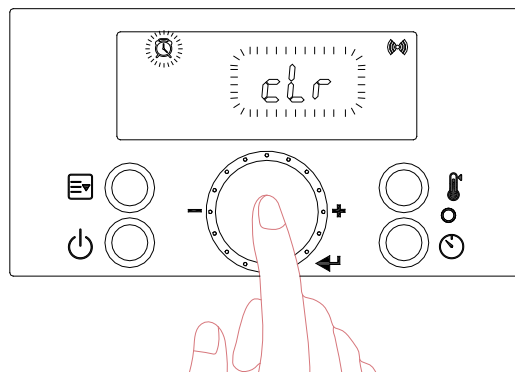

Figure 47 – Resetting the Recirculation Run Time
- Turn the dial  until “cLr” flashes on the screen. Press the  button at the “cLr” screen to reset the Recirculation Run Time. See Figure 47.